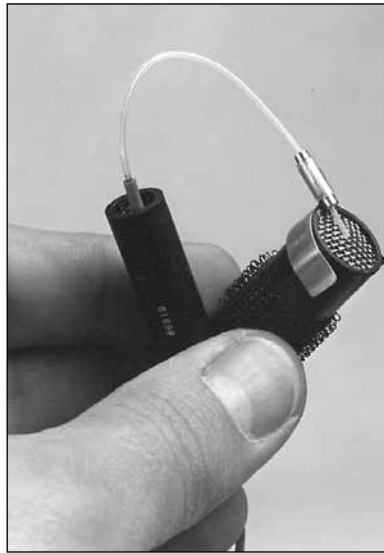

Figure C-3A—Attaching the probe to the reference microphone
- 8a. If you are using an old style (legacy) probe microphone set, locate the calibration clip and fasten it to the edge of the reference microphone. Insert a fresh probe tube through the tube on the clip until the tip of the probe is at the center of the reference microphone grill as shown in Figure C-3A.